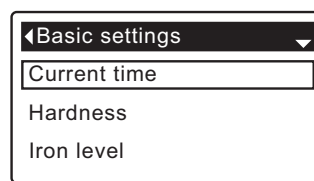

FIG. 41
3. Press the SELECT (O) button to display the Basic settings menu (See Figure 41).
7. Press the SELECT (O) button. The display will go back to the Basic settings menu (Figure 41).